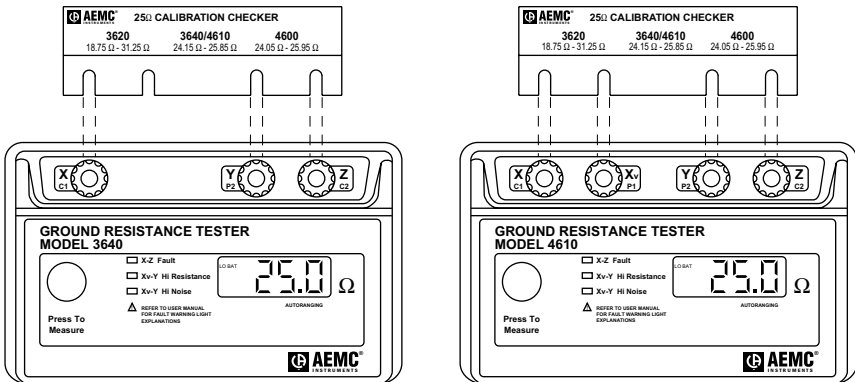

Figure 23
- Insert the resistor as shown in Figure 23.
For example, if a check was performed on the Model 4610 or 3640, the display should show a reading between 24.15Ω and 25.85Ω. If so (as in Figure 23), the instrument is in good working condition.